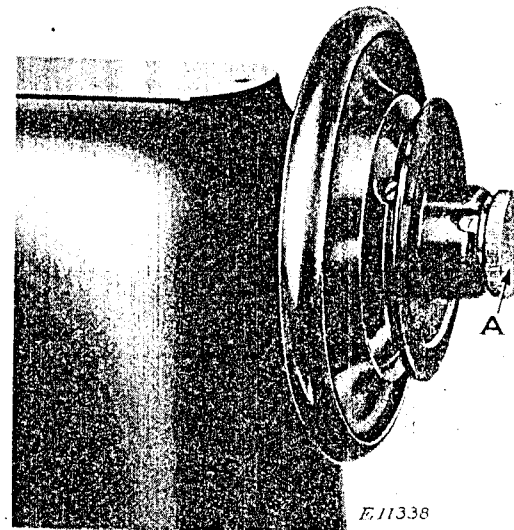

Fig.15. Stitch Regulator
The length of stitch is regulated by the thumb screw (A), Fig. 15) at the right of the balance wheel.
There is a notch in the hub of the balance wheel, as shown in Fig.15, and the number appearing in the notch shows the number of stitches to the inch that the machine is ready to make.